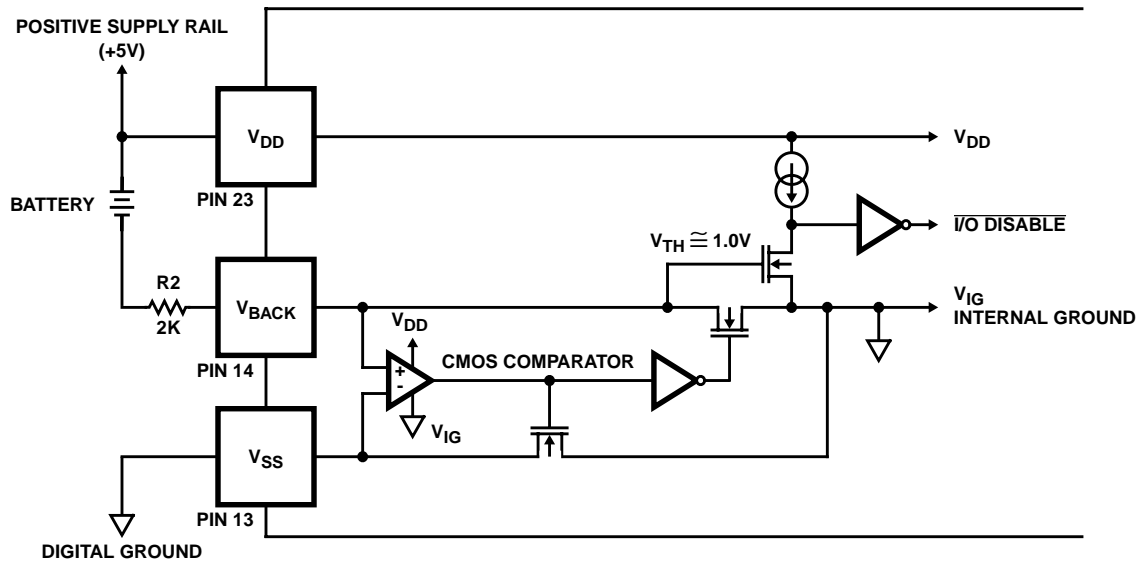

FIGURE 6. SIMPLIFIED ICM7170 BATTERY BACKUP CIRCUIT
The ICM7170 contains an on-chip power down detector that eliminates the need for external components to support the battery-backup switchover function, as shown in Figure 6. Whenever the voltage from the  $V_{SS}$  pin to the  $V_{BACKUP}$  pin is less than approximately 1.0V (the  $V_{TH}$  of the N-channel MOSFET), the data bus I/O buffers in the ICM7170 are automatically disabled and the chip cannot be read or written to. This prevents random data from the microprocessor being written to the clock registers as the power supply is going down.
The new load configuration (Figure 6) allows these two conditions to be met independently. The two load capacitors, C1 and C2, provide a fixed load to the oscillator and crystal. C3 adjusts the frequency that the circuit resonates at by reducing the effective value of the crystal's motional capacitance, C0. This minute adjustment does not appreciably change the load of the overall system, therefore, stability is no longer affected by tuning. Typical values for these capacitors are shown in Table 5. C1 and C2 must always be greater than twice the crystal's recommended load capacitance in order for C3 to be able to trim the frequency. Some experimentation may be necessary to determine the ideal values of C1 and C2 for a particular crystal.
4. EXTERNAL BATTERY BACKUP - The ICM7170 may be placed on the same power supply as battery-backed up RAM by keeping the ICM7170 in its operational state and having an external circuit switch between system and backup power for the ICM7170 and the RAM. In this case  $V_{BACKUP}$  should be pulled up to  $V_{DD}$  through a 2K resistor. Although the ICM7170 is always "on" in this configuration, its current consumption will typically be less than a microamp greater than that of standby operation at the same supply voltage (See Note 9). Proper consideration must be given to disabling the ICM7170s and the RAMs I/O before system power is removed. This is important because many microprocessors can generate spurious write signals when their supply falls below their specified operating voltage limits. NANDing CS (or WR) with a POWERGOOD signal will create a  $\overline{CS}$  (or  $\overline{WR}$ ) that is only valid when system power is within specifications. The POWERGOOD signal should be generated by an accurate supply monitor such as the ICL7665 under/over voltage detector. An alternate method of disabling the ICM7170's I/O is to pull  $V_{BACKUP}$  down to under a volt above  $V_{SS}$  ( $V_{SS} < V_{BACKUP} < 1.0V$ ). This will cause the ICM7170 to internally disable all I/O. Do not allow  $V_{BACKUP}$  to equal  $V_{SS}$ , since this could cause oscillation of the battery backup comparator (See Figure 6).  $V_{BACKUP} = V_{SS} + 0.5V$  will disable the I/O and provide enough overdrive for the comparator.